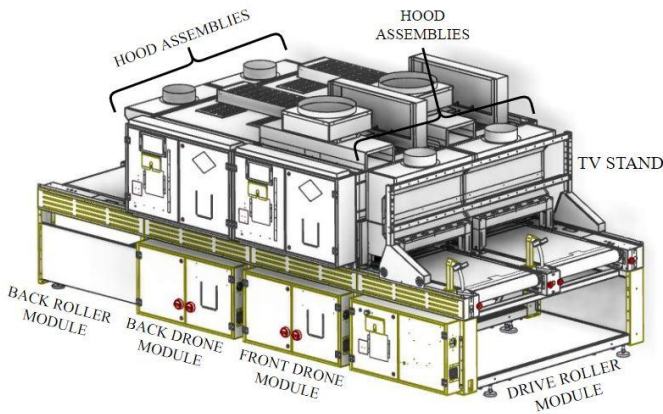

Figure 9: STANDARD MODULE ARRANGEMENT
- TV (mounts on TV stand –Figure 9)